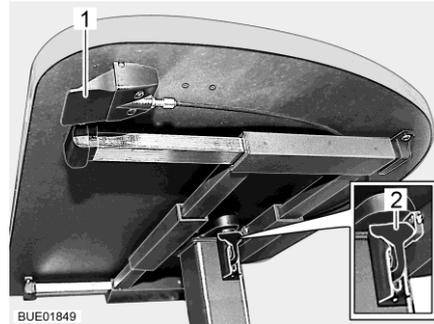

Fig. 84 Lift-off table with release button
- Pull or press down the catch lever (Fig. 84,2).
- Press the catch lever (Fig. 84,2) upwards.
- Press the release button (Fig. 84,1) and hold it down. The table top moves automatically upwards to the limit stop.
- Release the release button (Fig. 84,1). The table top remains in the desired position.
- Press the release button (Fig. 84,1) and hold it down.
- Release the release button (Fig. 84,1). The table top remains in the lowest position.